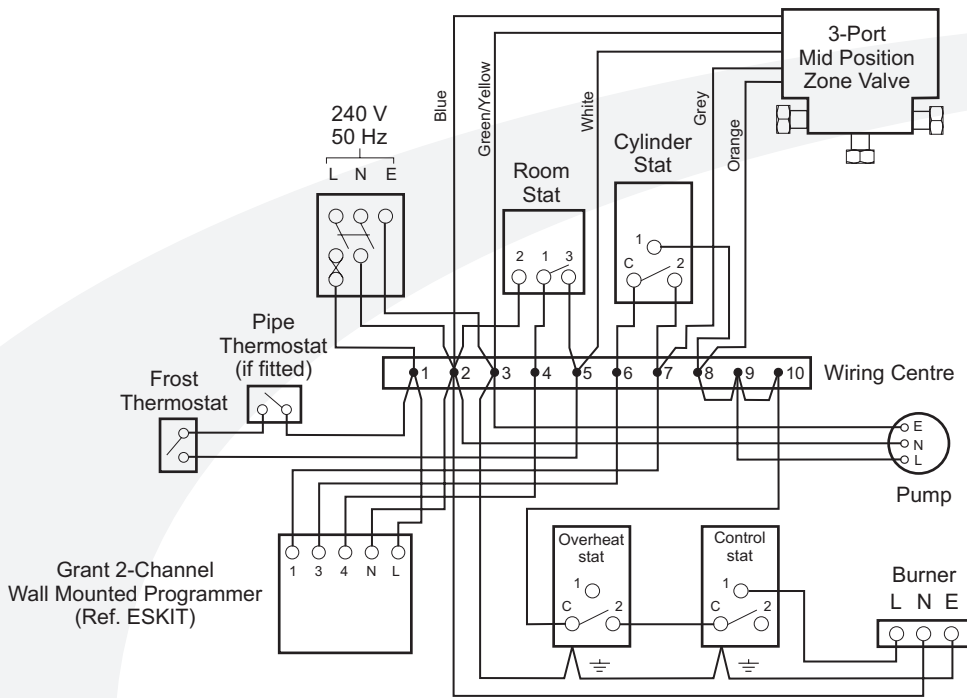

Figure 8-5: Boiler House models with 3-port valve control system
3. Refer to the wiring diagrams in Figures 8-5 or 8-6 and wire the programmer to the boiler terminal block.
- Withdraw the cable support bushes from the cover. Pass the burner supply cable through one of the bushes and connect it to the boiler (control) thermostat (refer to Figure 8-5) as follows:
Refer to Figure 8-5 for typical system wiring diagram.